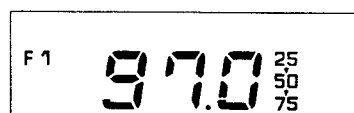

Fig. 11
Each time the \triangleright Tuning Button ⑪ is pressed, the frequency increases 25kHz. If you continue to press the button without releasing it, the frequency will continuously increase in 25kHz increments. (Fig. 11)